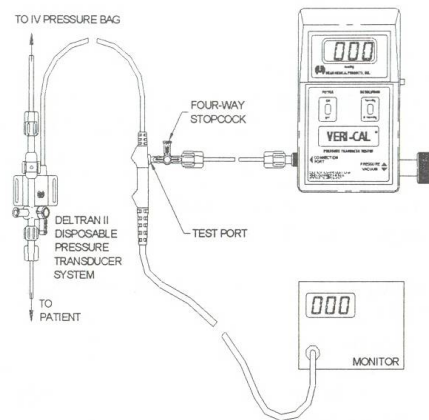

Figure 4
- Position the handles on the stopcocks as shown in Figure 4 in order to vent the transducer and Veri-Cal to atmosphere.